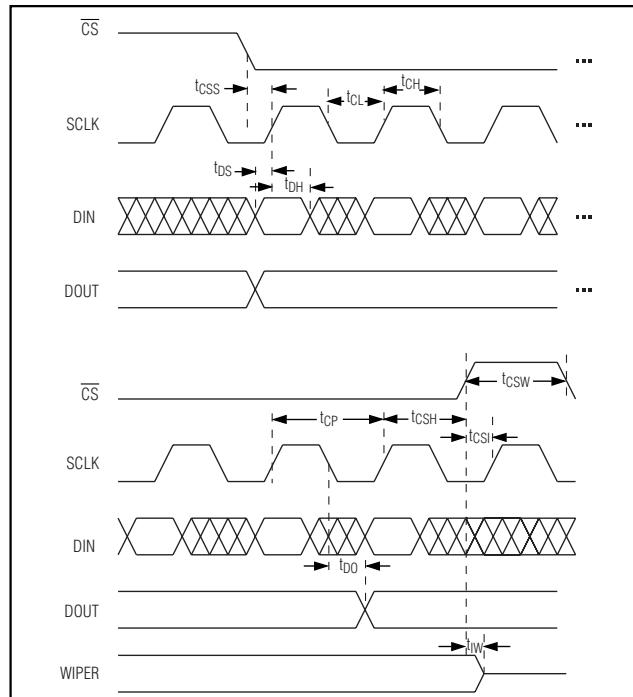

Figure 1. Serial Timing Diagram
TIMING CHARACTERISTICS (Figure 1)
The data bits control the position of the wiper (Table 7). A logic low on the chip-select input (CS) enables the device’s serial interface. A logic high on CS disables the interface control circuitry. See Figure 1 for serial-interface timing description.